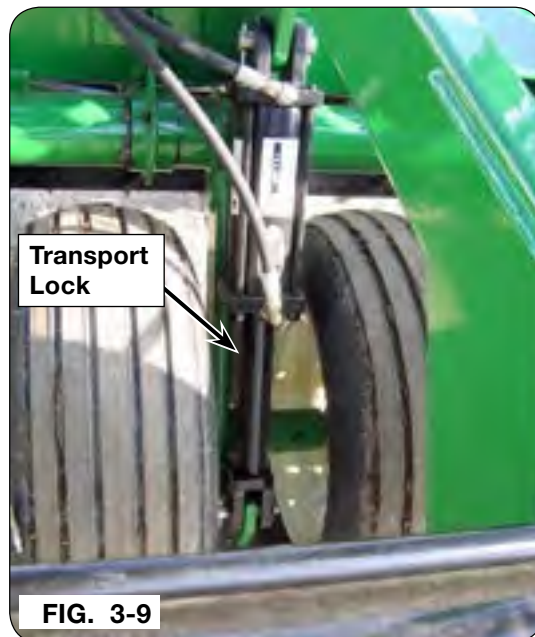

FIG. 3-9
- **IF UNIT IS TO BE UNHOOKED IN THE TRANSPORT POSITION, INSTALL HYDRAULIC CYLINDER TRANSPORT LOCKS (FIG. 3-9) AND LOWER JACK STAND TO GROUND BEFORE UNHOOKING UNIT.**